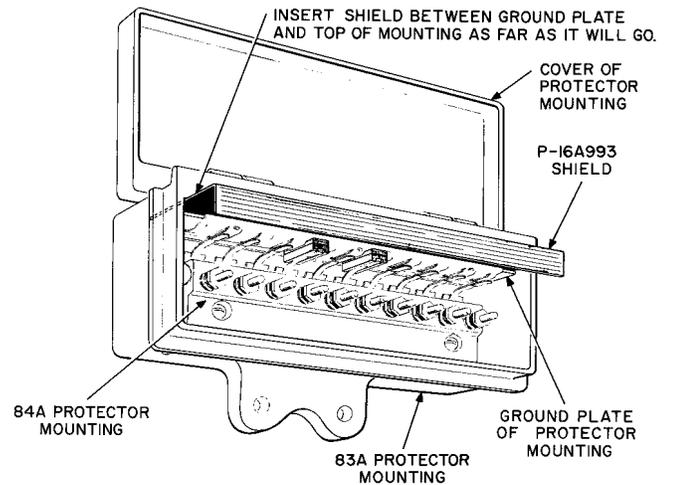

Fig. 5—83A Protector Mounting
2.05 The superseded 83A Protector Mounting is illustrated in Fig. 5. See Part 8 for information on replacement and maintenance.